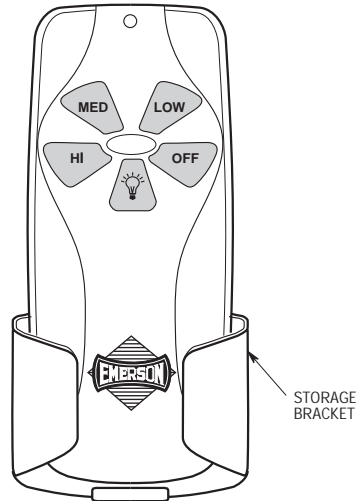

Figure 20
Your remote control (Figure 20) has full control of your fan and light. However, air-flow direction is controlled by a slide switch on the switch housing.
- 2. To set the desired fan speed, press the HI, MED, or LOW buttons to operate your fan on high, medium, or low speed (Figure 20).